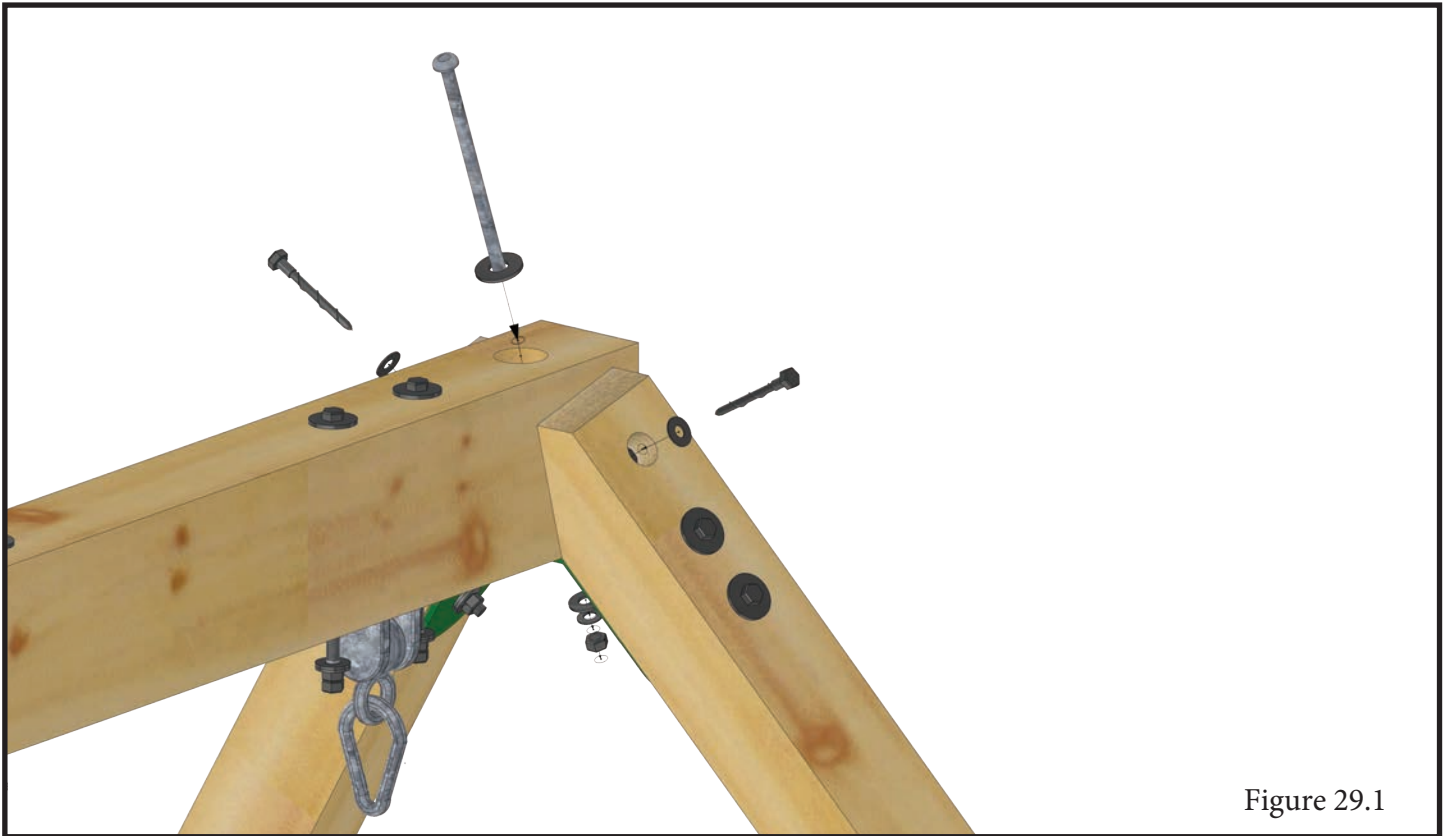

Figure 29.1
29.3 Fasten the top of the Swing Legs into the Swing Beam with 5/16" x 3" Lag Bolts with 5/16" washer as shown in Figure 29.1.